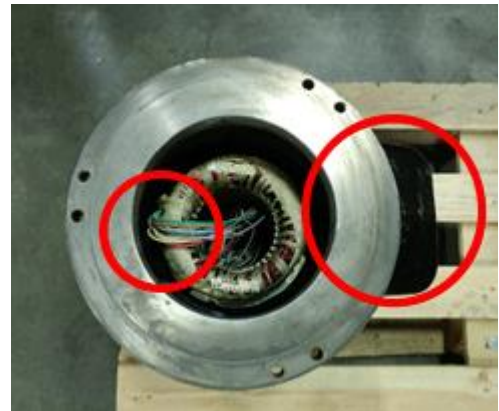

Figure 3
- Position new stator so wire bundles are in original location (marked in step #1). If you are unsure of the original location, on T motors, the wire bundle should be opposite of the cable entry (Figure 3). On P motors and larger, locate the gap in the shoulder at the bottom of the motor housing (Figure 4). Line up the slot in the stator iron with this gap (Figure 5). You will use this gap to pass the oil chamber seal probe wire through.